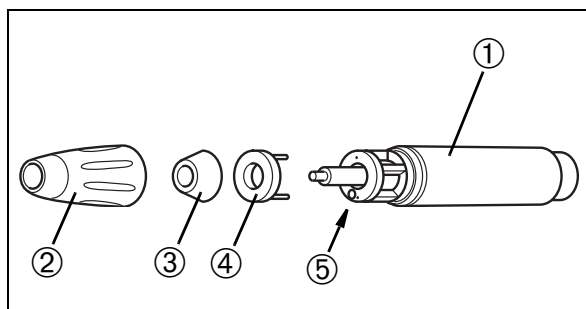

Fig. 66
- Unscrew the case ② (Fig. 66) from the handpiece.
- Carefully pull the LED ring ④ (Fig. 66) off the handpiece forwards.
You MUST ensure that the LED ring ④ (Fig. 66) is plugged in the right way round. The marks ⑤ (Fig. 66) on the handpiece and the LED ring must match. Incorrect connection will damage the LEDs irreparably.
- Screw the case ② (Fig. 66) back onto the handpiece.